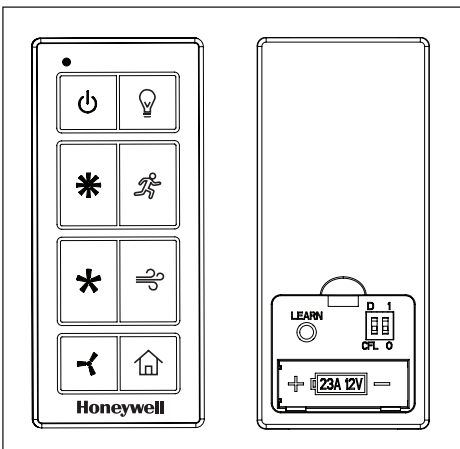

Figure 6.1
1. To operate the fan using the remote, press and release the following buttons (Figure 6.1):